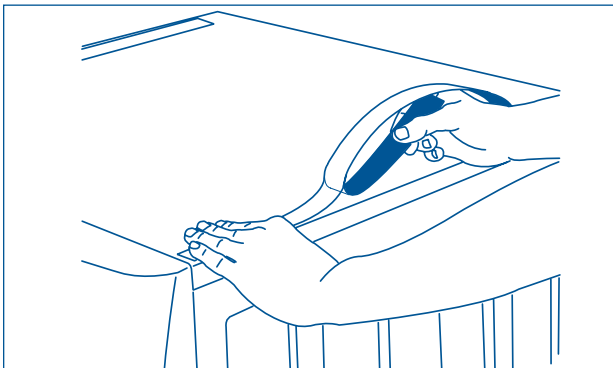

Figure 2-44.
2. Carefully remove BLUE backing from clear self adhesive strips. Apply to each side edge of the washer top. (See Figure 2-44)